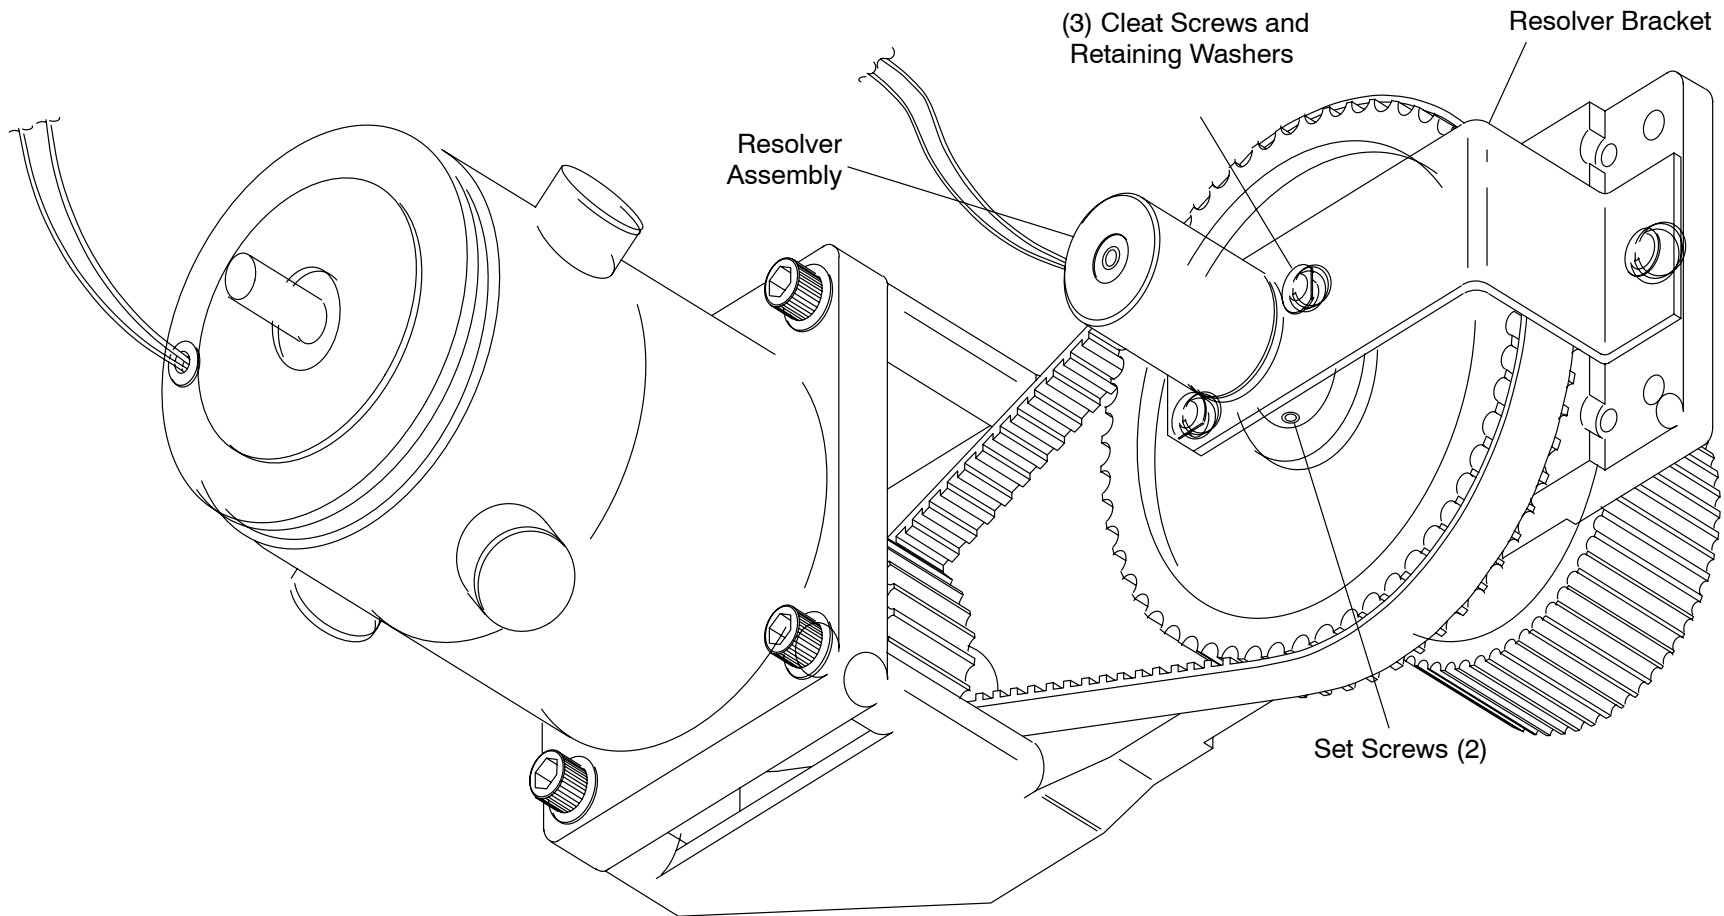

FIGURE 4 HORIZONTAL DRIVE ASSEMBLY
7. Loosen the three (3) Cleat Screws holding the Resolver in place. See Figure 4.
4. Turn the Resolver so the leads are at approximately the 10 o'clock position (as shown in Figure 4).